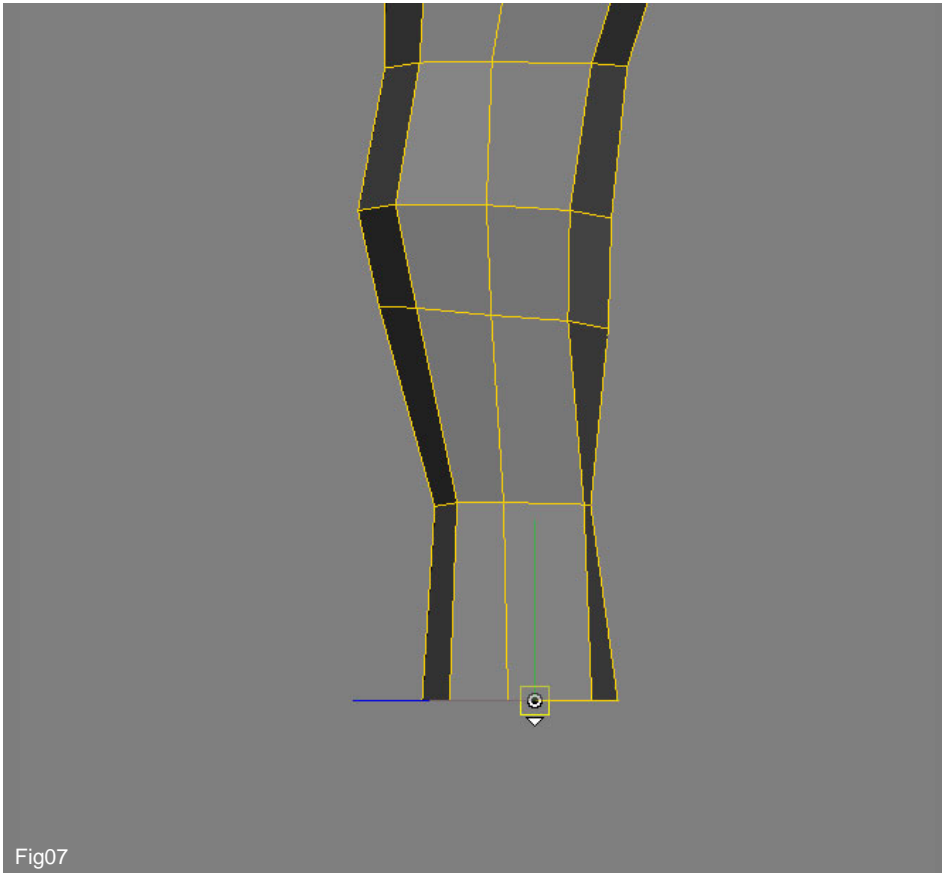

Fig07
7. With the three new polygons still selected, use the Scale tool to scale them down on the Y axis, so as to make them "flat". (Fig 07).